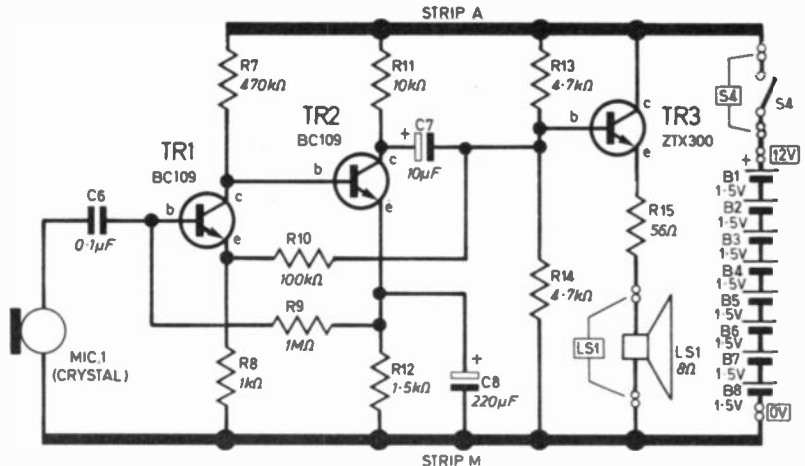
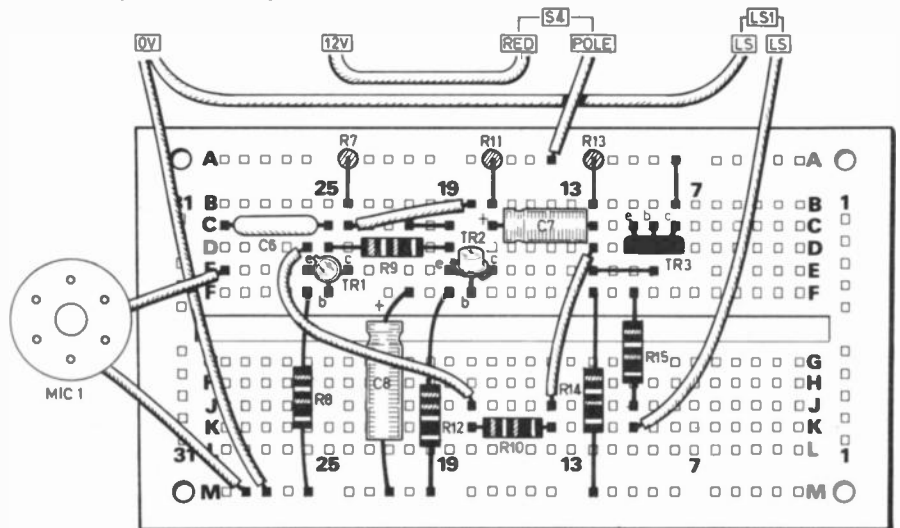
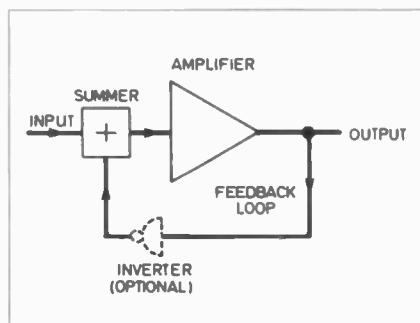

Fig. 7.7. Circuit diagram of a high gain, low noise amplifier with emitter follower amplifier (last stage).
Fig. 7.8. The layout of the components on the Verobloc for the circuit in Fig. 7.7 (Expt. 7.1).
Fig. 7.10. A feedback loop.
The circuit of Fig. 7.7 can be assembled on *Minilab* as shown in Fig. 7.8. When you have built and tested it you will find that it gives a much louder sound than the one-transistor amplifiers already investigated.
Fig. 7.10 outlines the main stages of feedback. If we include an inverter (a NOT gate for example) in the feedback loop, we have **negative feedback**. A good example of this is found in the amplifier of Fig. 7.7. The voltage at C7 varies according to the signal. A small fraction of these voltage changes is fed back through R10 to the emitter of TR1.
How the negative feedback loop in Fig. 7.7 works is illustrated below:
The Amplifier Module to be installed in *Minilab* is essentially that shown in Fig. 7.7.
4. Which capacitors are used for a.c. coupling in Fig. 7.7?
5. Why are BC109 transistors used for the first stages of amplification in Fig. 7.7?